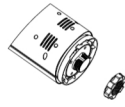

Fig. 1
1. Loosen and remove the plastic fixing nut from the main unit (Fig 1).